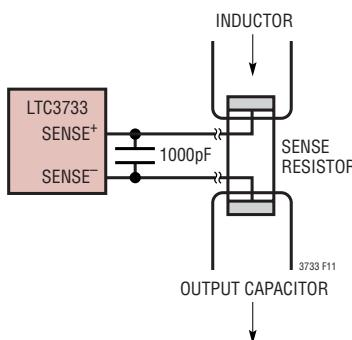

Figure 11. Kelvin Sensing RSENSE
3) Are the $SENSE^-$ and $SENSE^+$ printed circuit traces for each channel routed together with minimum PC trace spacing? The filter capacitors between $SENSE^+$ and $SENSE^-$ for each channel should be as close as possible to the pins of the IC. Connect the $SENSE^-$ and $SENSE^+$ pins to the pads of the sense resistor as illustrated in Figure 11.